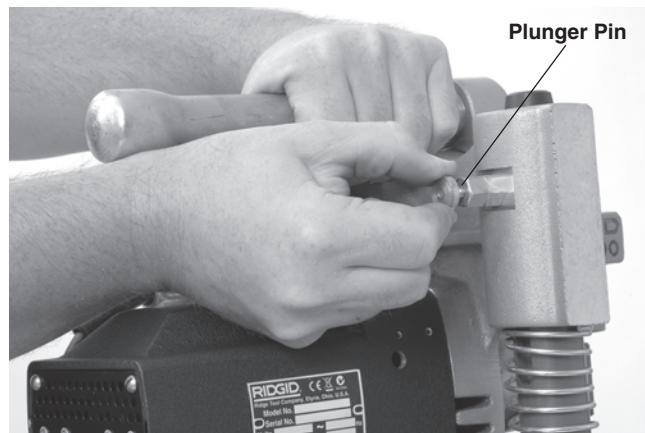

Figure 7 – Separating the Base and Motor Assemblies
- Broken, worn, missing, mis-aligned or binding parts. Make sure that the motor assembly moves smoothly and freely up and down the posts of the base assembly. Confirm that the chain and swivel handle move freely. On the HC-300, confirm that the plunger pin functions properly and retains the motor assembly to the base assembly (Figure 7).
1. With the HC-300 Hole Cutting Tool on a stable, secure surface, pull the plunger on the back of the left post (*Figure 7*) and lift the motor assembly off of the base assembly.